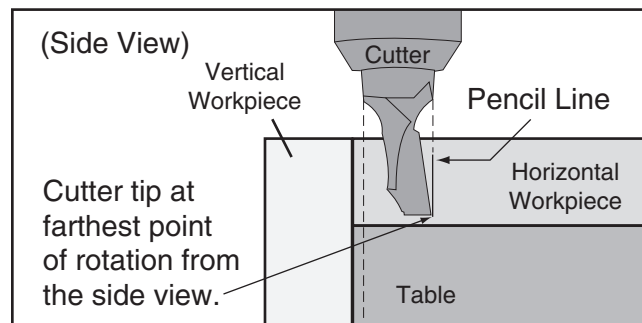

Figure 43. Cutter position to set cutter depth stop (viewed from the side).
7. Unlock the jam nut on the adjustment bolt, and adjust the cutter depth until the tip of the cutter aligns with the pencil line (**Figure 43**).